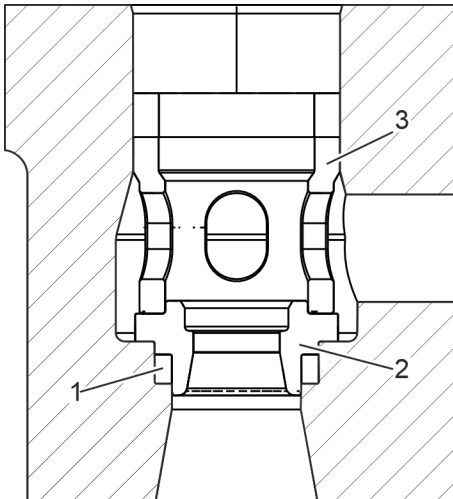

Fig. 45: Inserting the body insert and sealing elements
- 19.▶ Insert the gasket ring (Fig. 45/1) in the body.
- 20.▶ Mount the seat ring (Fig. 45/2) and body insert (Fig. 45/3).